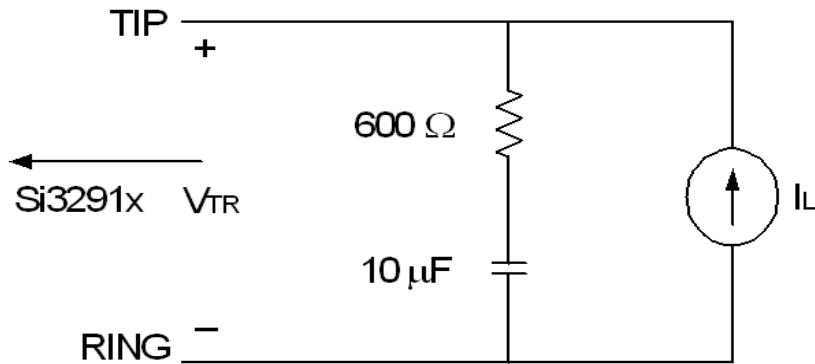

Figure 1. Test Circuit for Loop Characteristics
1. Measured at TIP and RING with 600 Ω termination at 1 kHz, as shown in Figure 1 on page 13.
1. Measured at TIP and RING with $600\ \Omega$ termination at 1 kHz, as shown in Figure 1 on page 13.
For Figures 1–5, all filter plots apply to a sample rate of